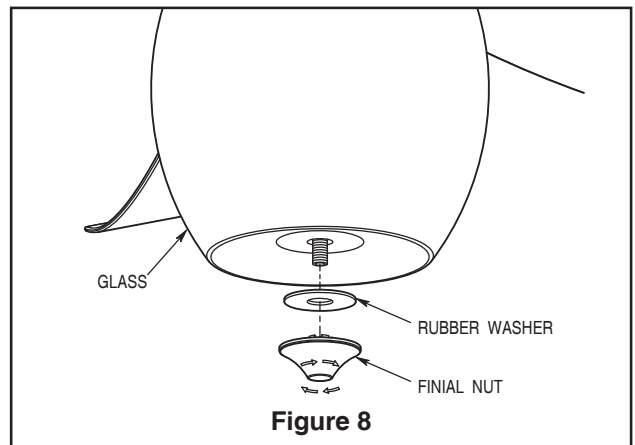

Figure 8
- 8. Remove rubber washer and finial nut from post on light socket plate. Position glass onto Light Socket Plate Post and secure with rubber washer and finial nut. Do not over-tighten (Figure 8).